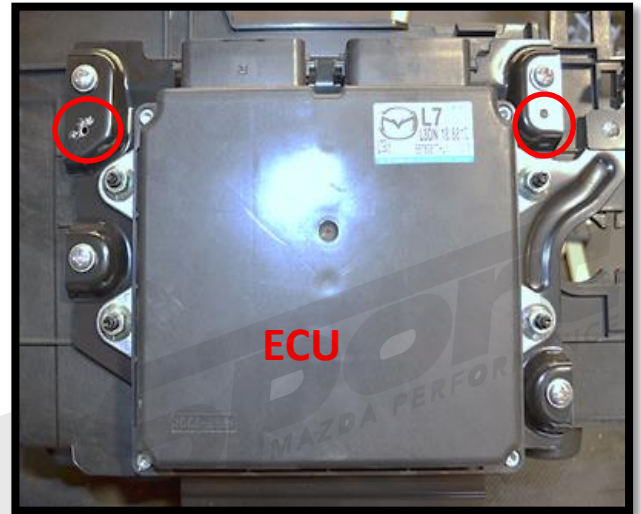

Figure 5g
- h) Remove the plastic cover that houses the ECU.** Unscrew the two Phillips head screws (red circles indicate screw locations) and pull the cover upward (exposed ECU shown in Figure 5g).